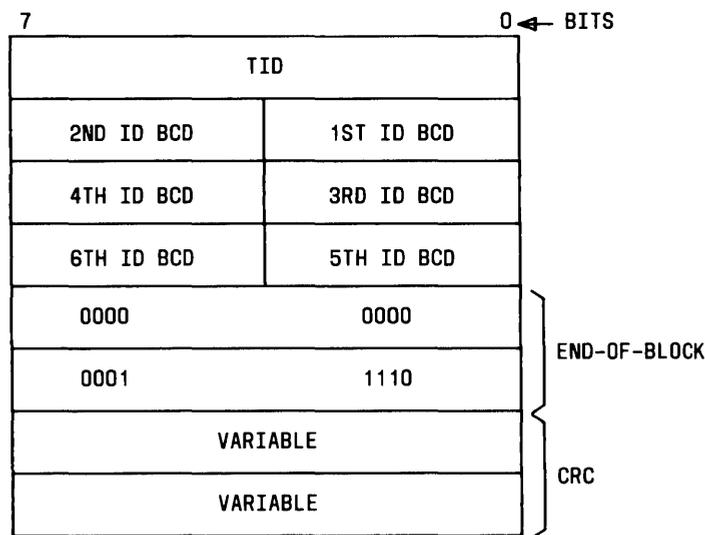

Fig. 4—Terminal Identification Message
2.09 Once working modes have established the backup connection, the AMARC transmits the initialization command over the backup link to the No. 3 ESS office. The No. 3 ESS office responds with a TID message and polling resumes with a retransmit command from AMARC over the backup link. If AMARC receives an incorrect TID, an error message is printed while polling continues on the backup link. The TID message format is shown in Fig. 4.